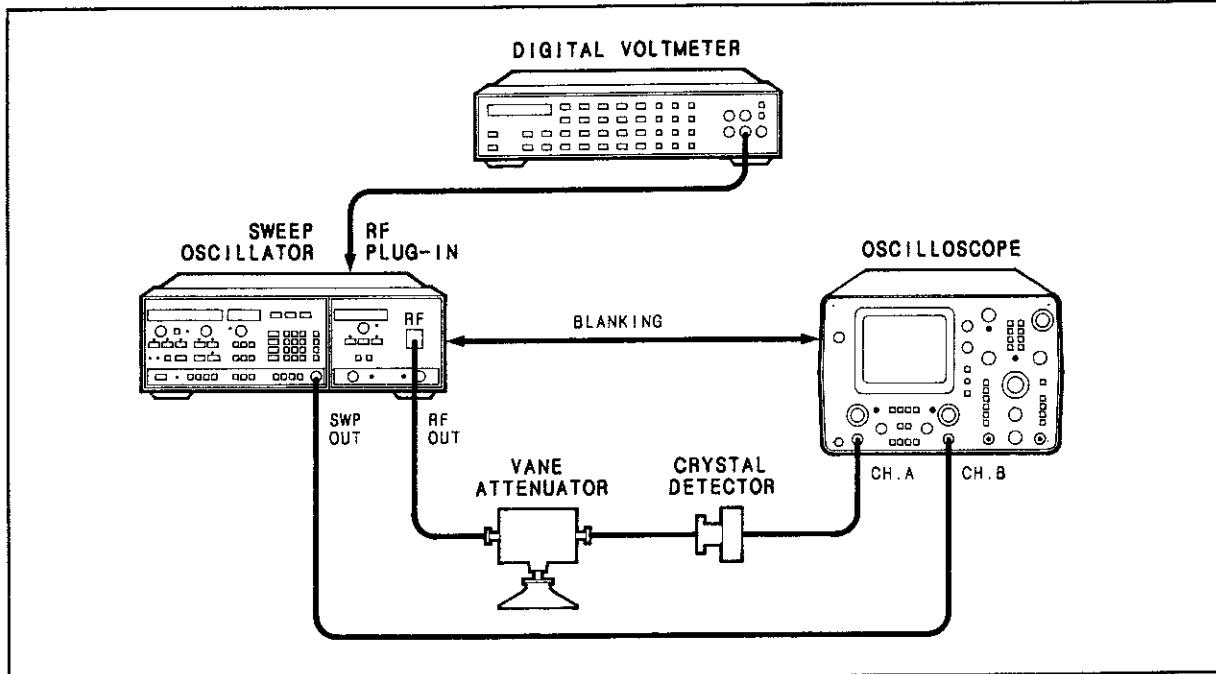

Figure 5-10. Maximum and Minimum Power Adjustment Setup
1. Connect equipment as shown in Figure 5-10.